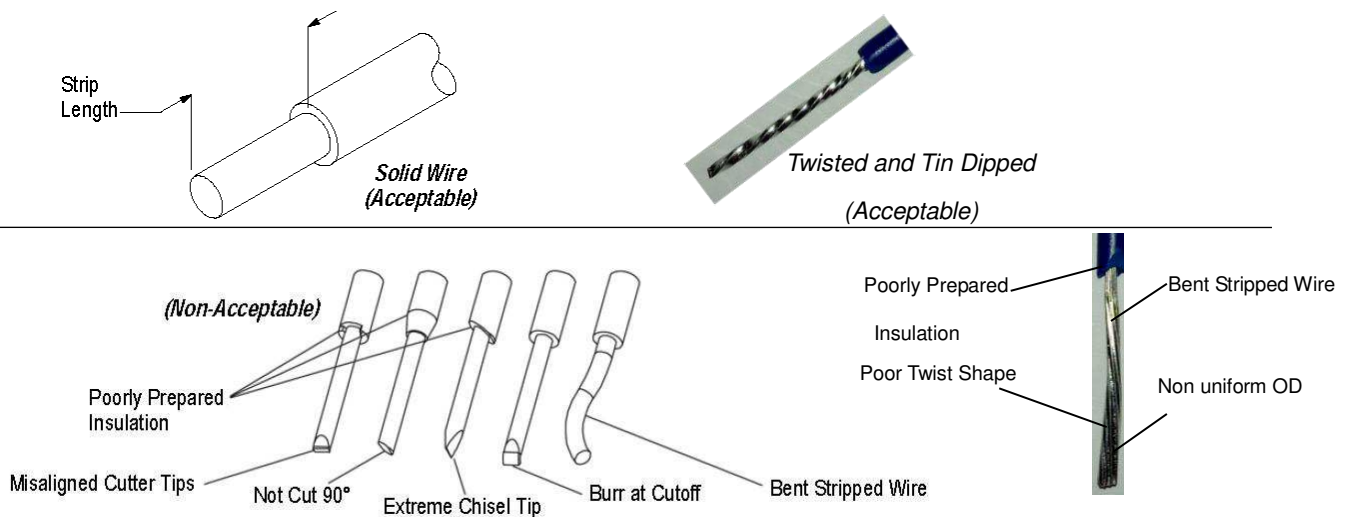

Figure 2
When preparing stranded wire, it is recommended to twist strands after stripping the insulation. The strands need to be well organized and in a uniform straight style. The stranded wire need to be coated with Tin. Too much Tin coated is not allowed. Tin dipping depth is same as wire strip length. The wire strip length is $9.0 \pm 0.5\text{mm}$ and the typical unacceptable wire preparation example is shown on Figure 2.
2. If using customer-assembled connectors, strip two wires with applicable copper conductors provided in Figure 2.